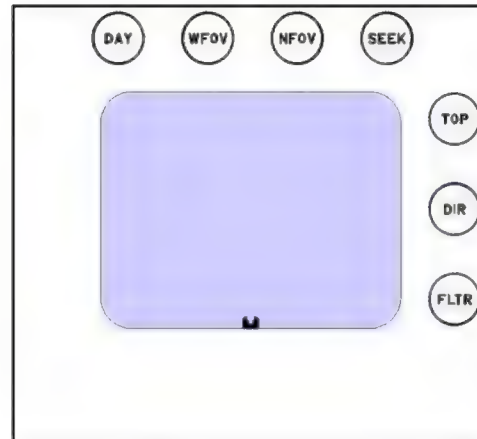

Figure 2-8. Status indicators—green.
a. **Green Status Indicators.** Seven of the fourteen status indicators are green (Figure 2-8). Green signifies the monitored function is in a satisfactory condition and that it is okay to proceed with normal operations.